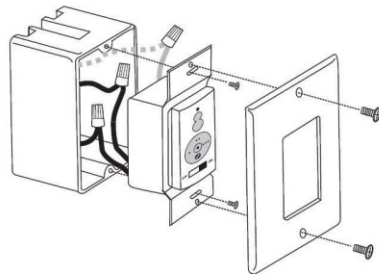

Fig.17
Step 3. Carefully tuck the wire connections inside the outlet box. The Touch Control™ System provided with your fan includes two sets of face and decorative plate color options. The wall control comes with a standard white faceplate attached. If you desire to replace it with the Ivory color faceplate, use your fingernail or a small flat screwdriver and gently pry it apart from the top or bottom of the plate. Use the screws provided to secure the wall transmitter and wall plate to the outlet box. (Fig. 17)